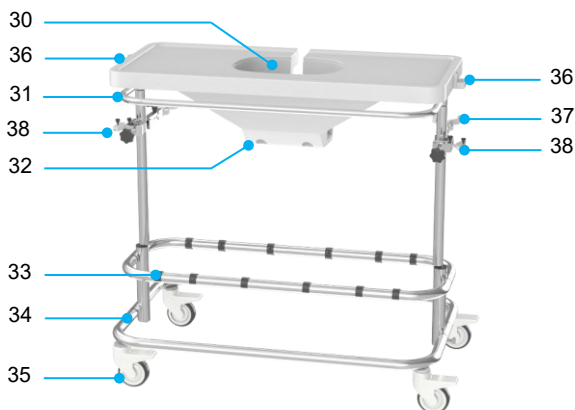

Figure 8 Trolley
The Thermo Unit and the two Pump Units are mounted on a trolley (Figure 8). The trolley is equipped with caster wheels with brakes and a push bar to allow for in-hospital transport.
- Set the trolley in the correct position and apply the brakes on the caster wheels (Figure 8, item 35).
- Place the liver reservoir in the cavity of the Liver Assist table (Figure 8, item 30).
- Orientate the blue tubing towards the portal side (PV), and the red tubing towards the arterial side (HA)
- Place the pressure sensors in the holders at each side of the tabletop (Figure 8, item 36).
- Place the oxygenators in the holders of the trolley (Figure 8, item 37) by pressing them into the clamp, see (Figure 11).